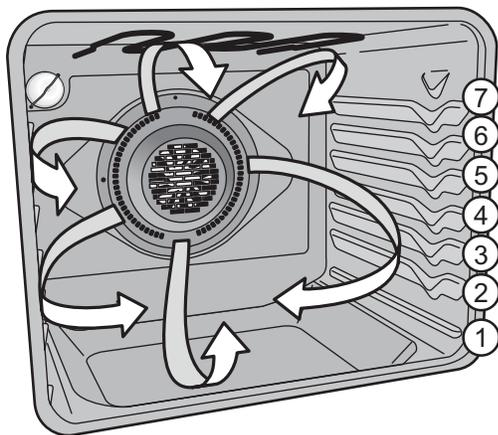

Figure 11: Air movement using convection
- For best results when using a single oven rack, place rack in position 4 or 5 (See Figure 11). When using two oven racks, place in positions 2 and 5. When using three oven racks, place in positions 2, 4, and 7 (use offset rack only in position 7).